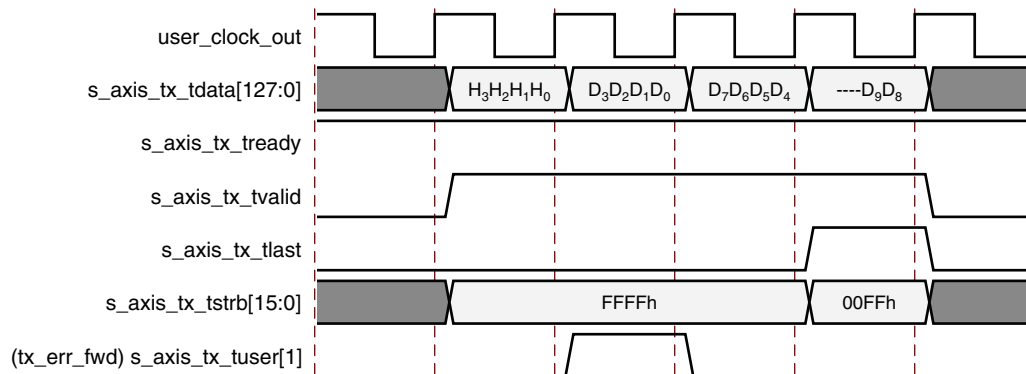

Figure 3-39: Packet Data Poisoning on the Transmit Interface
- Assert (tx_err_fwd) s_axis_tx_tuser[1] for at least one valid data transfer cycle any time during the packet transmission, as shown in Figure 3-39. This causes the core to set EP = 1 in the TLP header when it transmits the packet onto the PCI Express fabric. This mechanism can be used if the User Application does not know whether a packet could be poisoned at the start of packet transmission. Use of tx_err_fwd is not supported for packets when (tx_str) s_axis_tx_tuser[2] is asserted (streamed transmit packets). In streaming mode, you can optionally discontinue the packet if it becomes corrupted. See Discontinuing Transmission of Transaction by Source, page 55 for details on discontinuing packets.